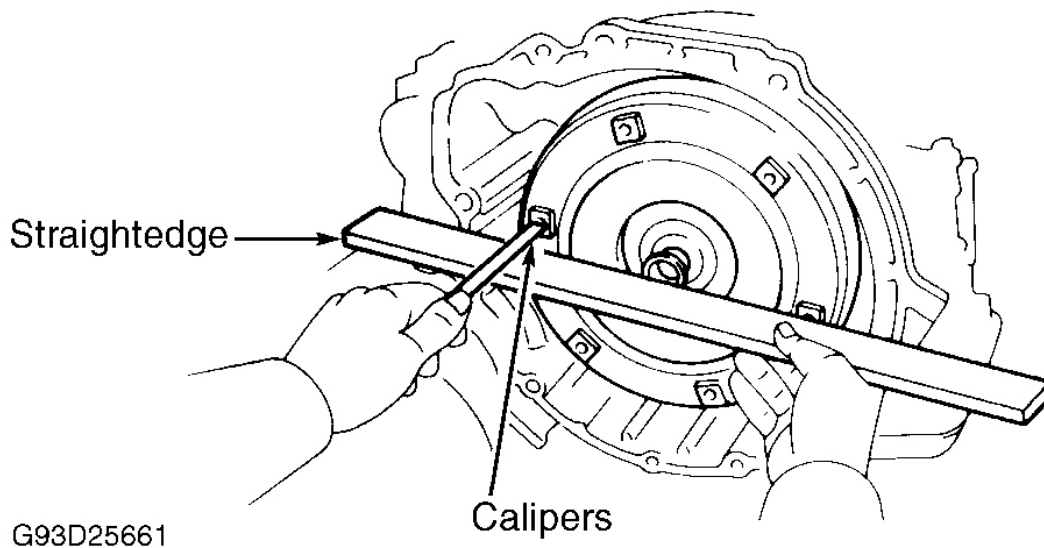

Fig. 63: Measuring Torque Converter Depth
38. Install torque converter on transaxle. Using a straightedge and calipers, measure torque converter installed depth. For torque converter depth specifications, see **TORQUE CONVERTER DEPTH SPECIFICATIONS** table. See **Fig. 63**.